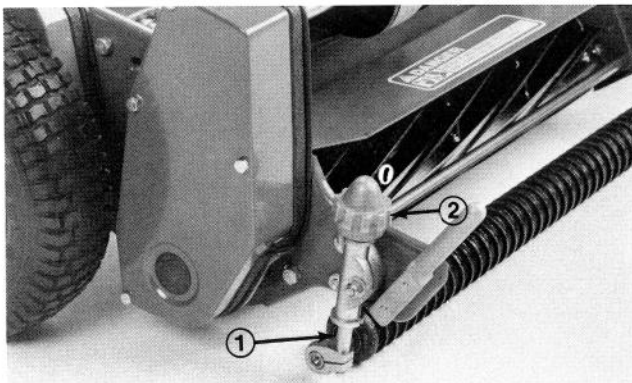

Figure 1
1. Loosen carriage bolts, washers, and locknuts securing roller adjusting screws to height-of-cut brackets (Fig. 1).
2. Loosen height-of-cut adjusting knobs until roller and adjusting screws slide out of height-of-cut brackets (Fig. 1).